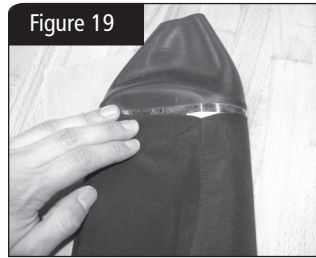

Figure 19
9. Flatten the cuff such that the seam appears right of center. See Figure 19.